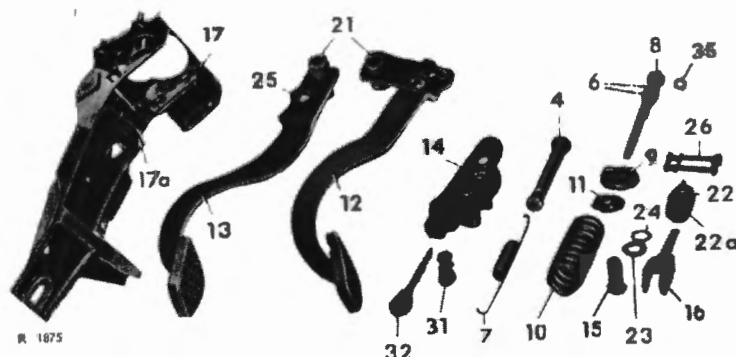

Fig. 29-2/8
14. Install the pressure spring (10) (dead center spring) and adjust to the dimension "c" (see Job No. 29-0 and Fig. 29-2/3).
15. Attach the piston rod (32) for actuating the supply cylinder to the clutch pedal (12) (Figs. 29-2/3 and 4).